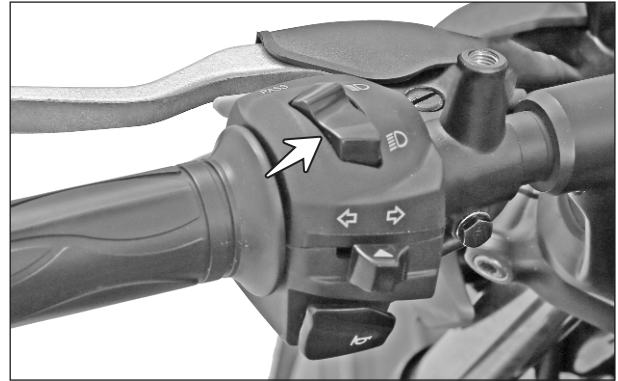

Fig. 5.19
- Switch beam control is provided on the switch assembly LH on the left hand side of the handle bar. (Fig. 5.19)